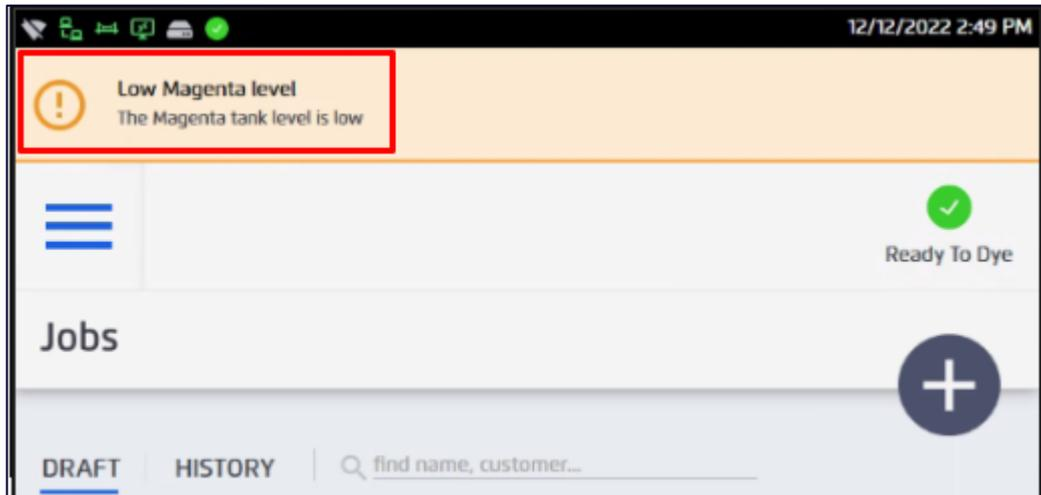

Figure 8: Low ink message
1. To determine if the machine needs ink, check the PPC. If the color tank empty message (see Figure 8) is displayed at the top of the PPC, load the indicated ink color.